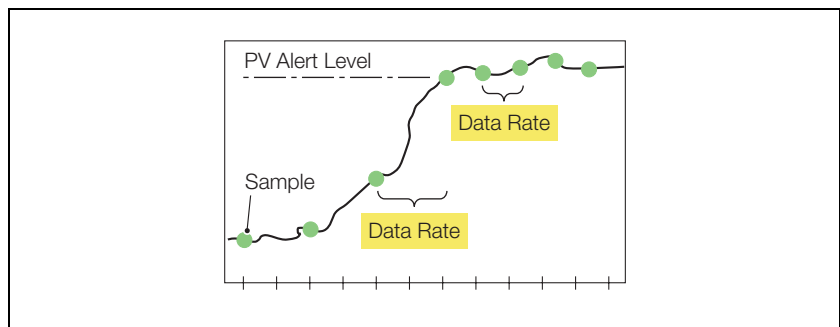

Fig. 4. Smart reporting
Smart reporting provides a method to change the data rate based on the process value. Fig. 4 shows the reporting rate increase if the Process Variable (PV) crosses an alert level, offering the operator faster update times.